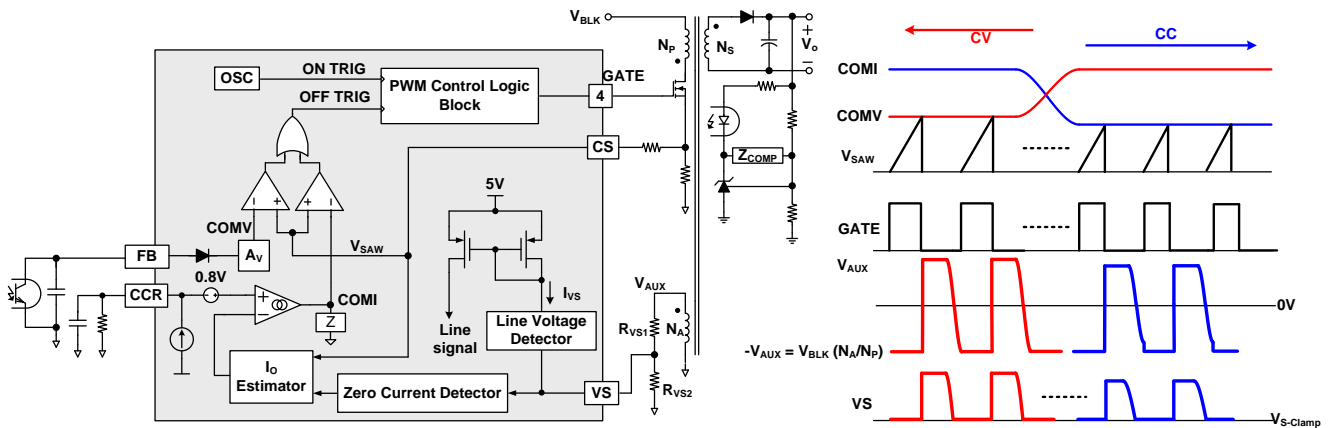

Figure 27 Simplified PWM Control Circuit and PWM Operation for CV/CC Regulation
The FAN604 indirectly senses the line voltage through the VS pin while the MOSFET is turned on, as illustrated in Figure 27. MOSFET turn-on period, the auxiliary winding voltage,  $V_{AUX}$ , is proportional to the input bulk capacitor voltage,  $V_{BLK}$ , due to the transformer coupling between the primary and auxiliary windings. During the MOSFET conduction time, the line voltage detector clamps the VS pin voltage to  $V_{S-Clamp}$  ( $0 V$ ), and then the current  $I_{VS}$  flowing out of VS pin is expressed as:
Figure 27 shows a simplified CV / CC PWM control circuit of the FAN604. The Constant Voltage (CV) regulation is implemented in the same manner as the conventional isolated power supply, where the output voltage is sensed using a voltage divider and compared with the internal reference of the shunt regulator to generate a compensation signal. The compensation signal is transferred to the primary side through an opto-coupler and scaled down by attenuator  $A_V$  to generate a COMV signal. This COMV signal is applied to the PWM comparator to determine the duty cycle.
These two control signals, COMV and COMI, are compared with an internal sawtooth waveform ( $V_{SAW}$ ) by two PWM comparators to determine the duty cycle. Figure 27 illustrates the outputs of two comparators, combined with an OR gate, to determine the MOSFET turn-off instant. Either of COMV or COMI, the lower signal determines the duty cycle. During CV regulation, COMV determines the duty cycle while COMI is saturated to HIGH level. During CC regulation, COMI determines the duty cycle while COMV is saturated to HIGH level.
Where Lm is the transformer's primary side magnetizing inductance. Since the output current error is proportional to the line voltage, the FAN604 incorporates line voltage compensation to improve output current estimation accuracy. Line information is obtained through the line voltage detector as shown in Figure 27. ICOMP is an internal current source, which is proportional to line voltage. The line compensation gain is programmed by using CS pin series resistor, RCS\_COMP, depending on the MOSFET turn-off delay, tOFF\_DLY. ICOMP creates a voltage drop, VOFFSET, across RCS\_COMP. This line compensation offset is proportional to the DC link capacitor voltage, VBLK, and turn-off delay, tOFF\_DLY. Figure 29 demonstrates the effect of the line compensation.